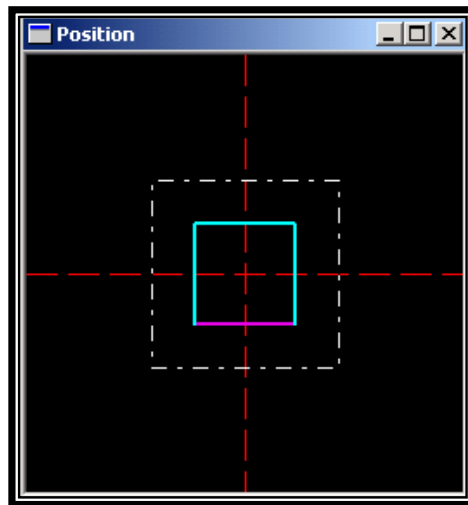

Fig. B.1
**X and Y off.:** determine the X and Y offsets on the sample. You can view the portion that is being scanned using the Position Window (see Fig. B.1 below).